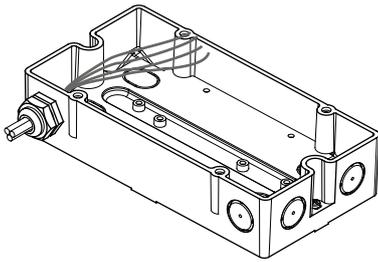

Fig. 5
4. Insert the cables and fix the cables in the housing (Fig. 5).